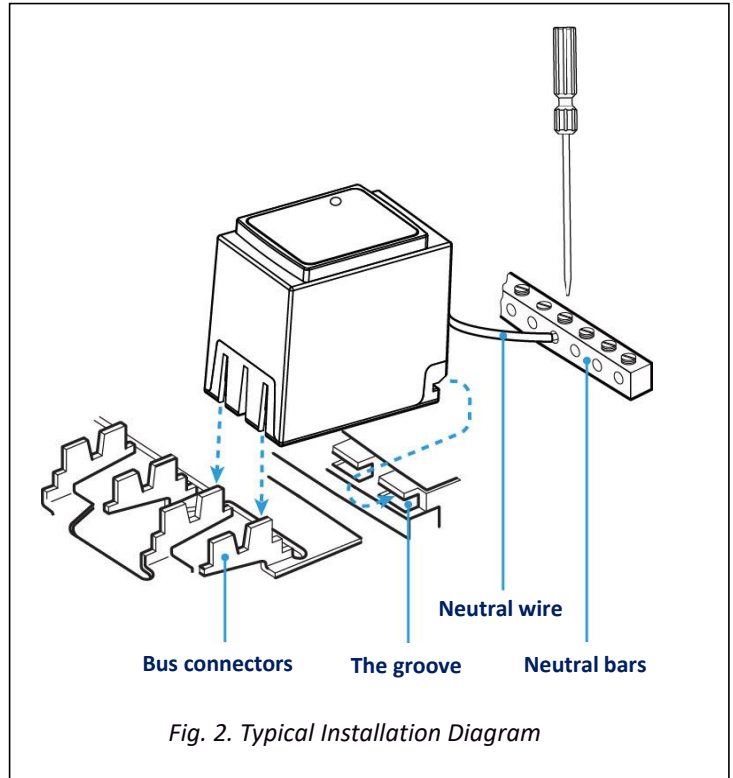

Fig. 2. Typical Installation Diagram
3. Plug the SPD into the selected location and fit securely (see Fig. 2).
4. Cut the neutral wire to required length,connect the SPD to the neutral bars (see Fig. 2).